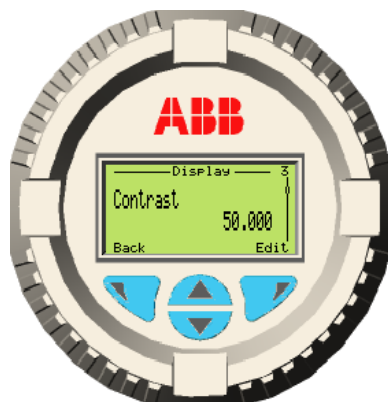

Figure 45: Contrast setting
6. Verify that the contrast setting is set to a value of 50 (Figure 45). If the value is near 0 or 100, adjust the contrast that best works for the site: